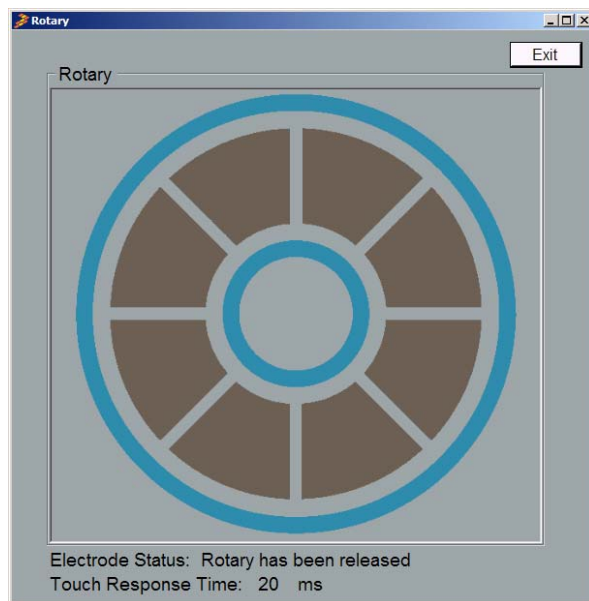

Figure 14. Rotary Floating Window
- a) View Rotary – The user can choose to view the rotary graphic on the a floating window. To do this, select “View Rotary” and the window will pop-up (Figure 14).